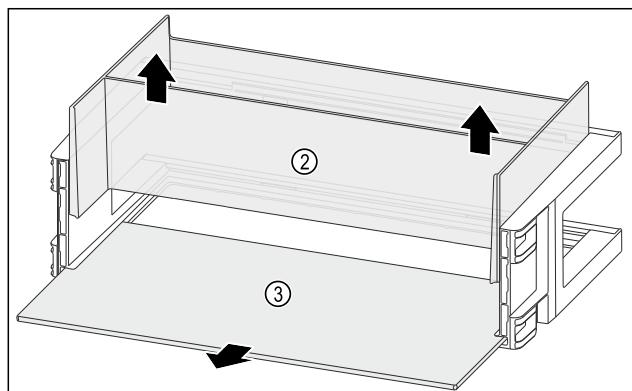

Fig. 123
- ▶ Remove the organiser Fig. 123 (2) upwards.
- ▶ Remove the shelf Fig. 123 (3).